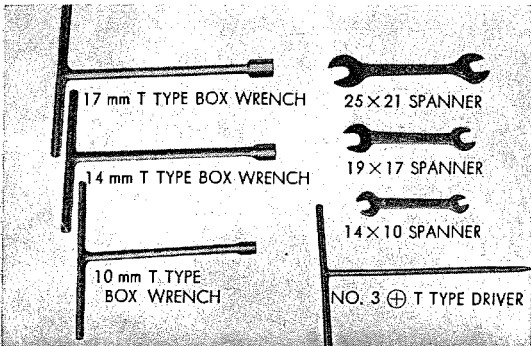

Fig. 4.59 Tools required for disassembly and assembly of rear fork and rear fender
1. Tools required for disassembly and assembly of the rear fork and fender. (Refer to Fig. 4.59)